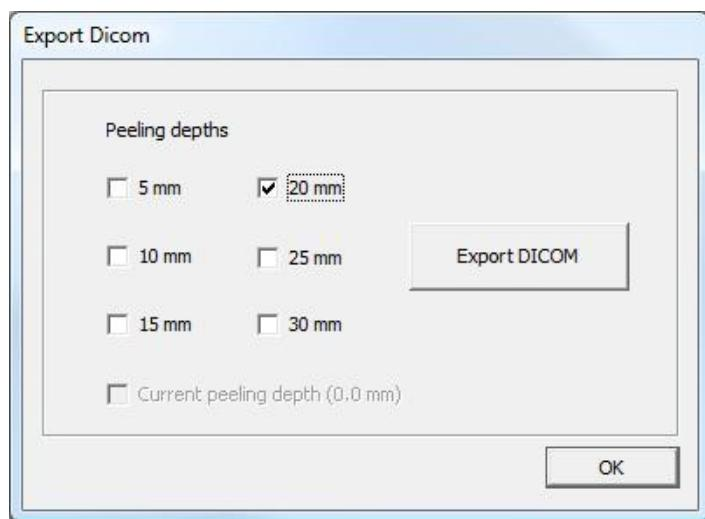

Fig. 125. Export DICOM -dialog
3. In the appearing **Export DICOM**-dialog (Figure 125), you can select the peeling depths you wish to use for the export.